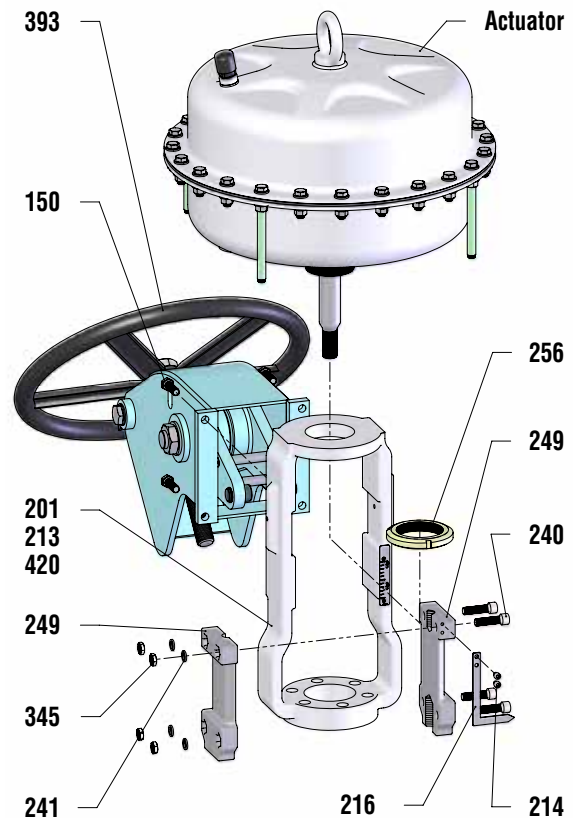

Figure 30: Actuator parts
7. If necessary mount new the actuator onto the yoke (201) put in line with the mark and tighten the actuator locknut (256) counter-clockwise. The vent plug shall be at a right angle to the yoke legs (see figure 30).